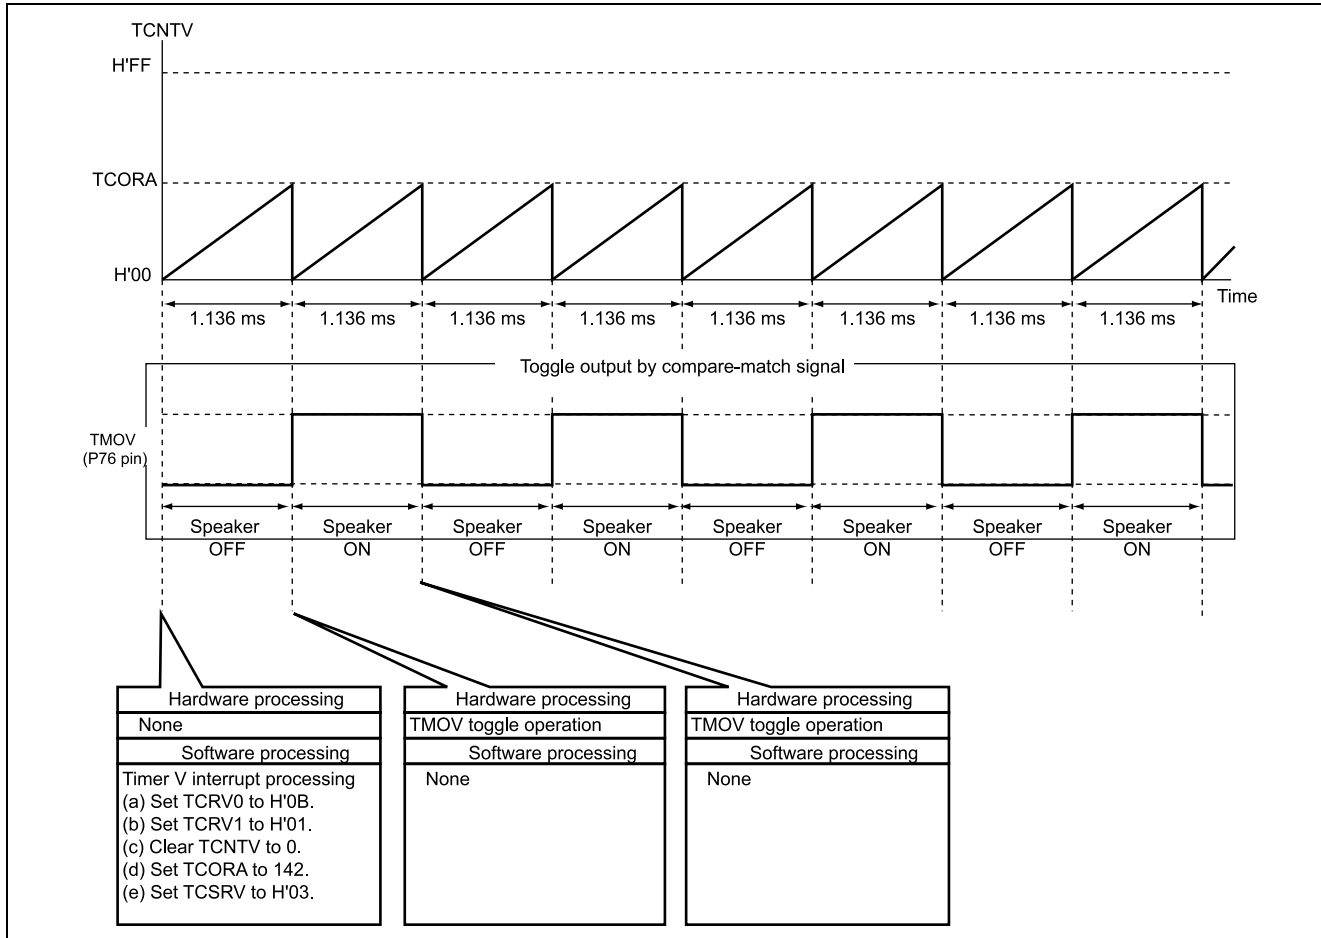

Figure 3.1 Principle of Operation for Musical Note Output Using Timer V
- The principle of operation for producing a musical note output using the timer V is shown in figure 3.1. As illustrated in this figure, TMOV output is toggled in the cycle of compare-match of timer V to output the sound of A (440 Hz).